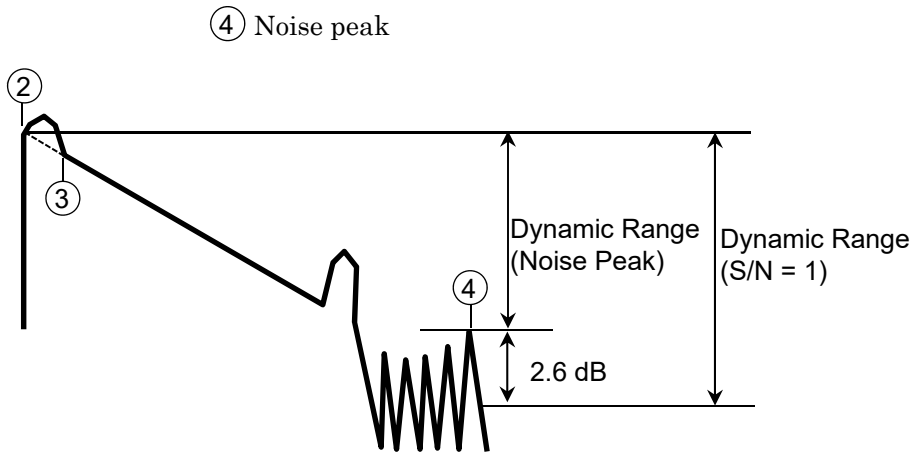

Figure 14.3.3-2 How to Measure Dynamic Range
20. Place the markers on the positions shown in Figure 14.3.3-2.
- ② Extreme left of the trace graph
- ③ Optical connector of the ACCESS Master